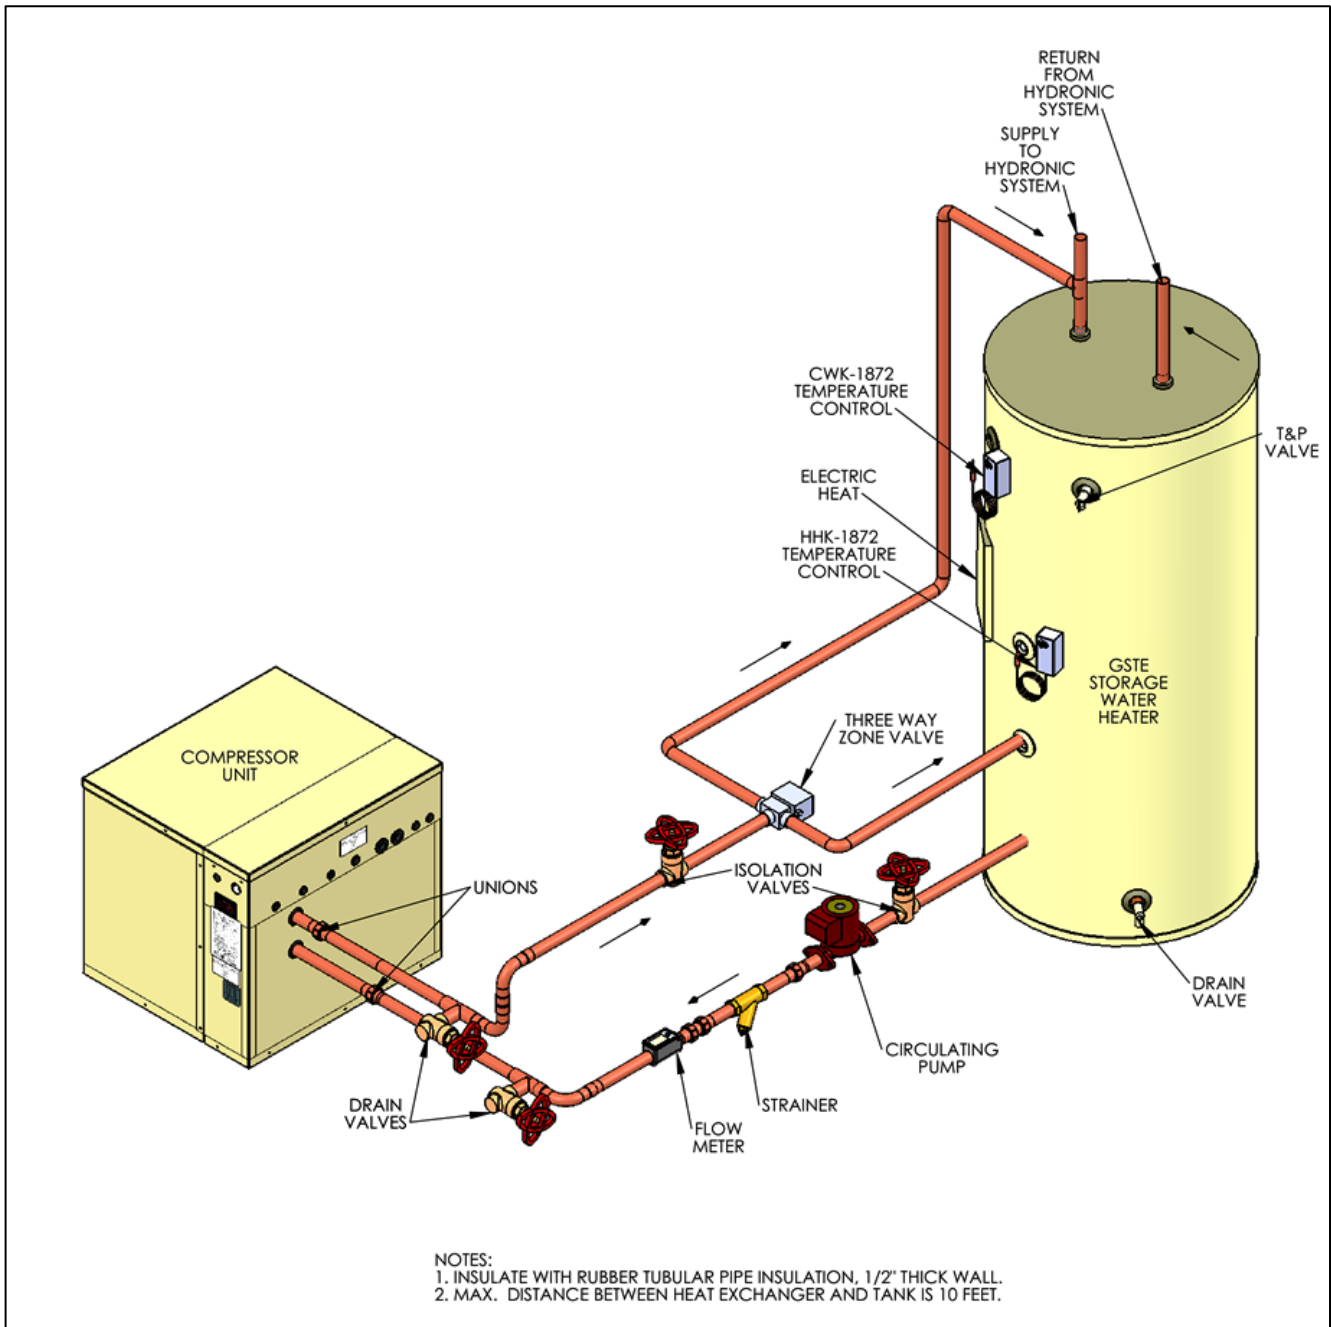

Figure 11a. Typical SCW(D) Primary Hydronic Circuit Plumbing
A typical primary hydronic plumbing circuit for an SCW(D) system is illustrated in Figure 11a.